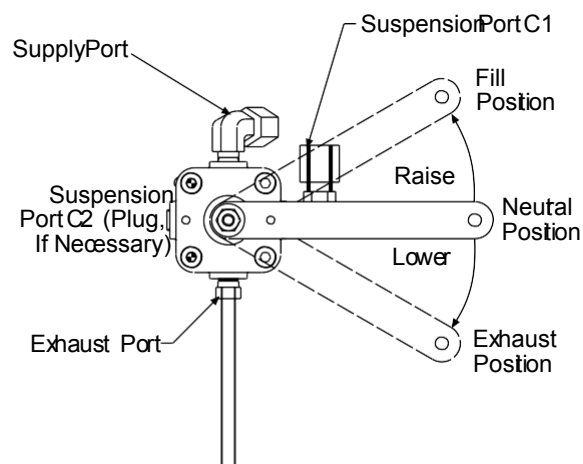

Figure 2. Ride height adjustment
2. Install the supply and suspension fittings on the height control valve until the distance between the suspension mounting surface and the axle center matches the recommended suspension ride height (Figure 2).